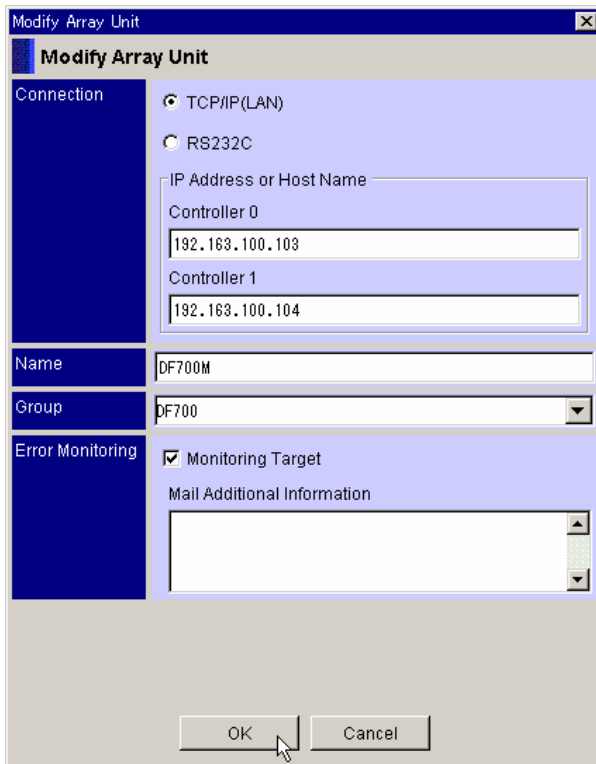

Figure 4.16 Modify Array Unit Window
1. On the Storage Navigator Main window, open the **Modify Array Unit** window (see Figure 4.16) by one of the following methods: